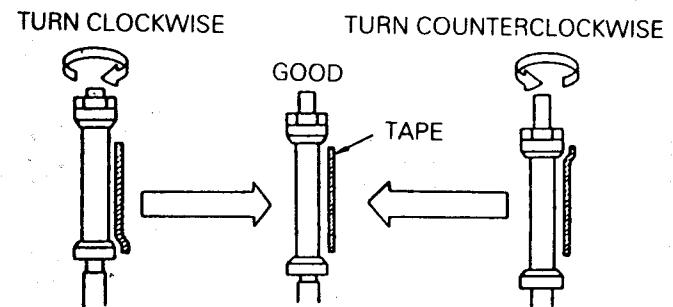

Fig. C-6-3
- 4) If the tape rides over either flange, adjust the height of P1 Roller and Guide Post as follows(Fig. C-6-3).